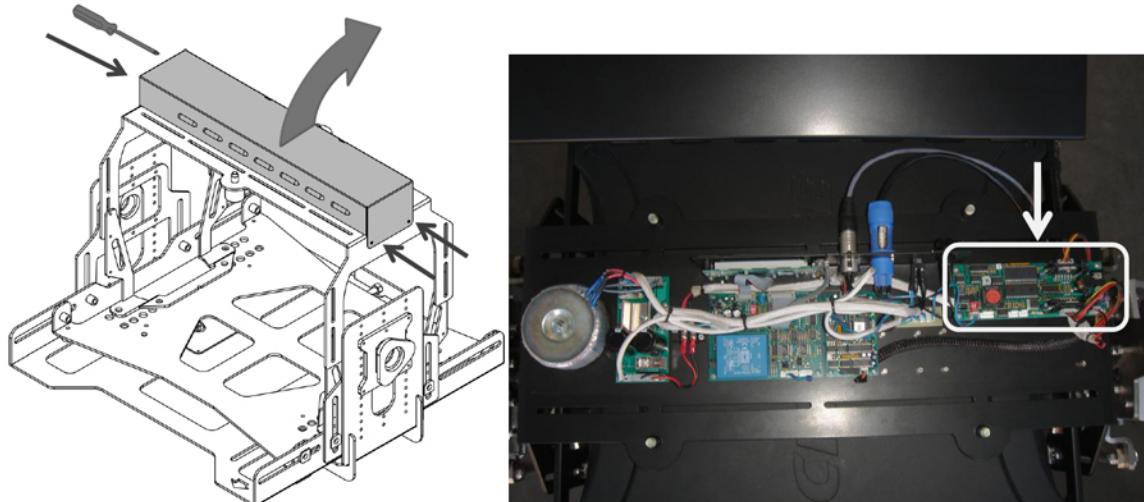

Figure 3-45 Head Box Cover Removal and Zoom and Focus Board Location
6. Remove the Head Box cover. The location of the zoom and focus board is highlighted in **Figure 3-45**.